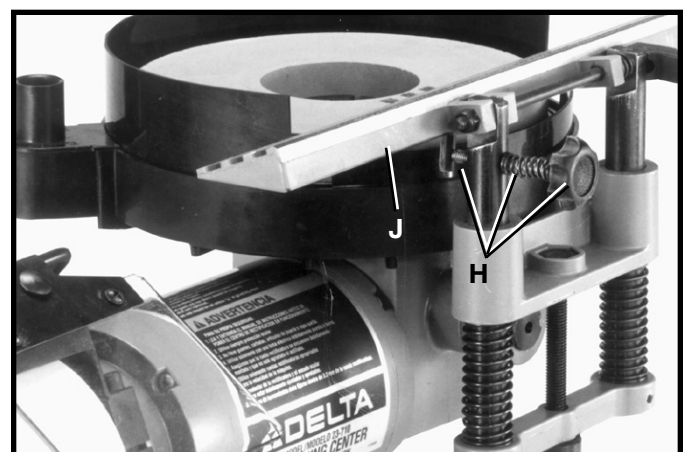

Fig. 39
3. Place flat washer, spring and another flat washer onto the tilting screw knob included with the 23-715. Thread tilting screw and spring assembly (H) Fig. 39, into hole in left post.